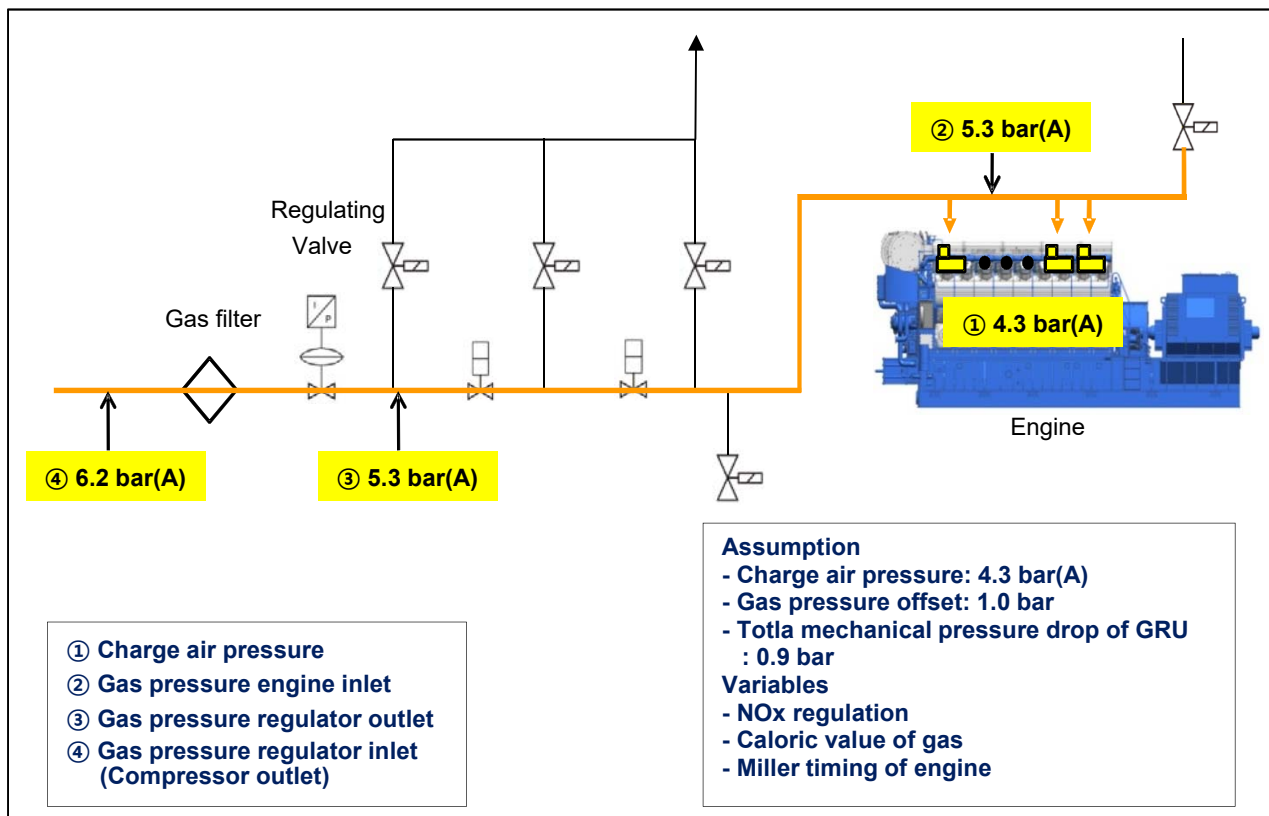

Fig. 4-1-1 Min. required gas pressure for 100% load operation at GRU inlet
- Min. required gas pressure: Refer to fig. 4-1-1 and 4-1-2 for required gas pressure.